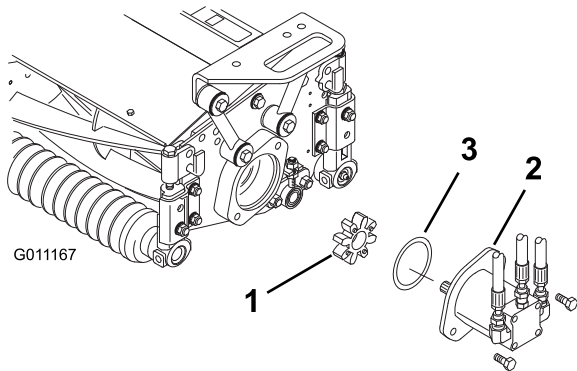

Figure 24
4. Locate the spider coupling (Figure 24) shipped in the bearing housing.